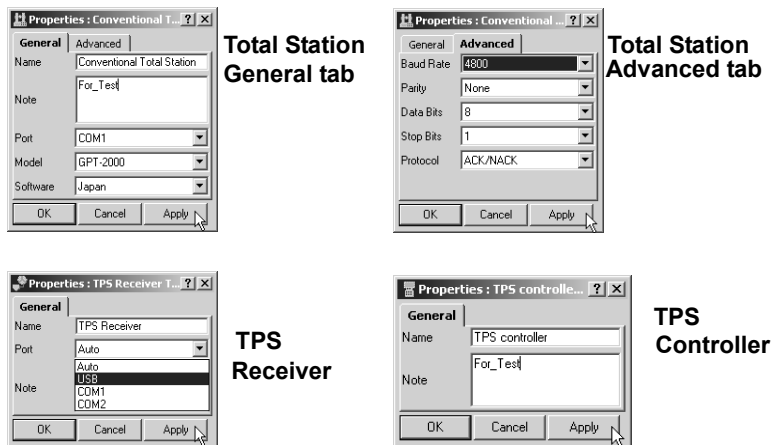

Figure 2-6. Properties Screens for Devices
2. On the *Properties* dialog box, enter the device name, comment, computer port, Total Station model (if applicable), and connection parameters (Figure 2-6 on page 2-4).